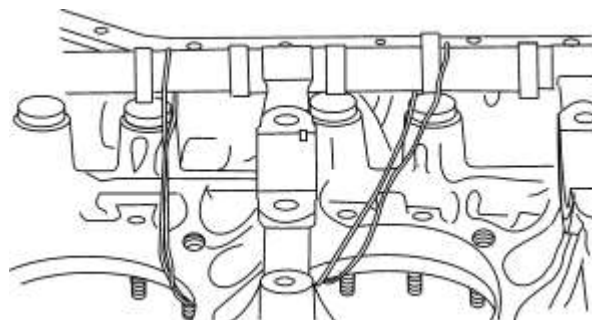

Figure 79
- (6) Install the camshaft in the left crankcase half.
- (7) Tie a loop of soft wire around the camshaft and left crankcase half (as shown in Figure 79) to hold the camshaft securely in place.